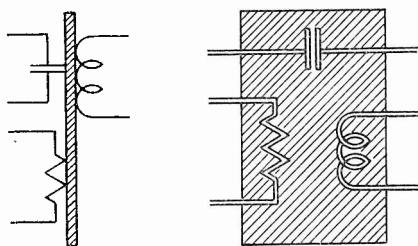

Fig. 1, left, and Fig. 2, right, show two possible methods of representing printed circuit elements.
1. Since the elements are inseparably associated with a strip or mount of some kind—the surface on which the elements are printed, these should be shown. One possible arrangement is shown in Fig. 1. Inductance, resistance and capacitance are symbolized, all being joined to a vertical line which indicates that the elements are part of the mounting plate or strip. The cross-hatch representation for the supporting block is quite commonplace. Frankly this form of representation is not the best and leaves much to be desired.